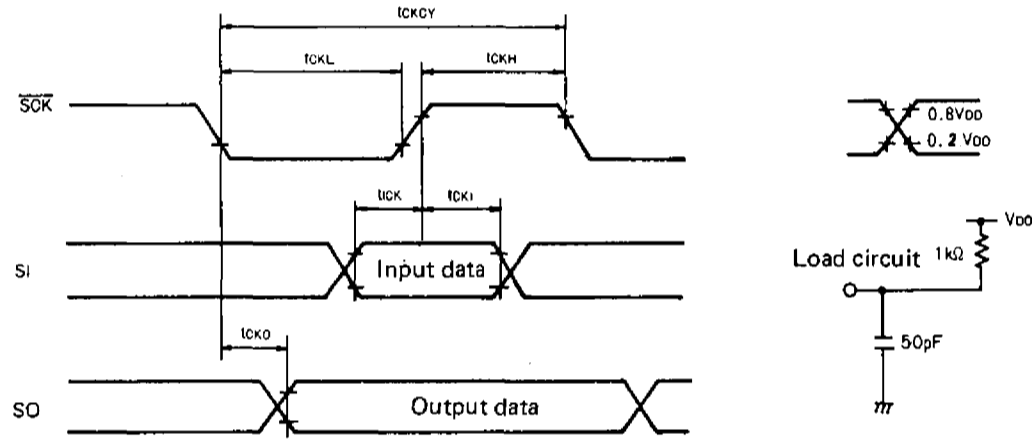

Fig. 6 Serial Input/Output Timing
| Input Clock Cycle Time                | t CKCY (1)          | $\overline{SCK}$ : V DD = 4 to 5.5V, Fig. 6$\overline{SCK}$   | 3.012.0                |                            |                            | μsμs                 |
| Output Clock Cycle Time               | t CKCY (2)          | SCK (T CYC = 4 x System clock period), Fig. 6   |                            | 64 x T CYC      |                            | μs                       |
| Input Clock "L"-Level Pulse Width     | t CKL (1)           | $\overline{SCK}$ : V DD = 4 to 5.5V, Fig. 6$\overline{SCK}$   | 1.0                        |                            |                            | μs                       |
|                                       | t CKL (2)           | $\overline{SCK}$ , Fig. 6  |                            | 32 x T CYC      |                            | μs                       |
| Output Clock "L"-Level Pulse Width    | t CKH (1)           | $\overline{SCK}$ : V DD = 4 to 5.5V, Fig. 6$\overline{SCK}$   | 1.0                        |                            |                            | μs                       |
|                                       | t CKH (2)           | $\overline{SCK}$ : Fig. 6  |                            | 32 x T CYC      |                            | μs                       |
| Data Setup Time                       | t ICK               | SI: Specified for ↑ of $\overline{SCK}$ , Fig. 6   | 0.5                        |                            |                            | μs                       |
| Data Hold Time                        | t CKI               | SI: Specified for ↑ of $\overline{SCK}$ , Fig. 6   | 0.5                        |                            |                            | μs                       |
| Output Delay Time                     | t CKO               | SO: V DD = 4 to 5.5V,Specified for ↓ of $\overline{SCK}$ ,Nch OD only: External 1 kohm,external 50 pF, Fig. 6SO   |                            |                            | 0.52.0                 | μsμs                 |
The load conditions are the same as in Fig. 6.